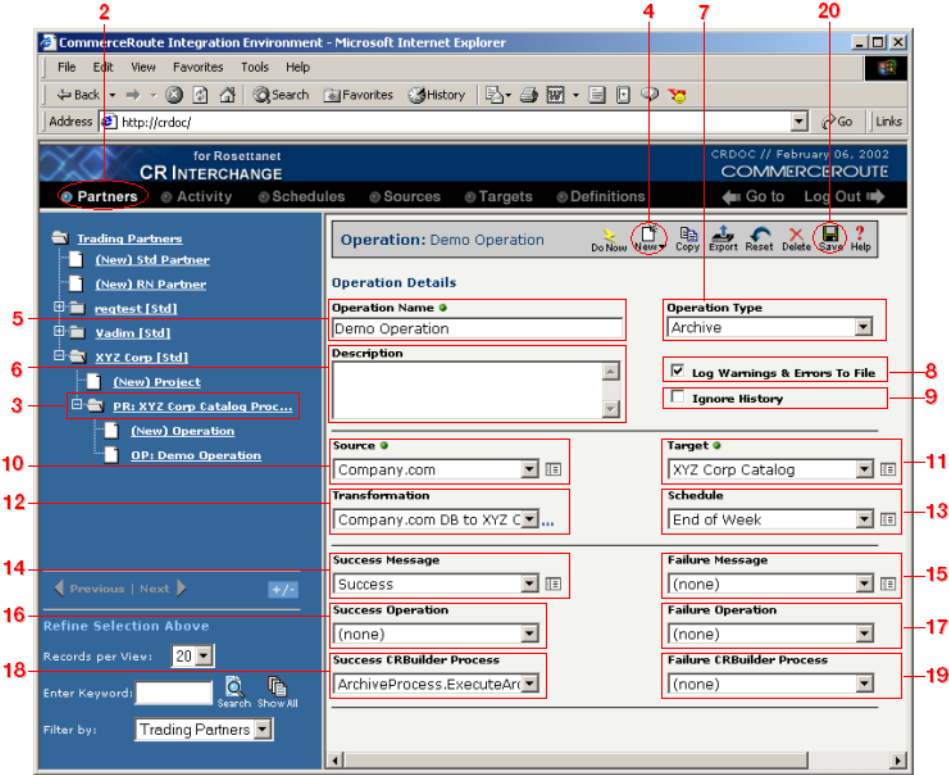

Figure 10-1. A completed operation, created by assembling the appropriate source, target, schedule, transformation, and other desired definitions.
Follow these steps to create an operation. Each step is marked in Figure 10-1 below.
- 20 Compare your work with Figure 10-1 below, then click the **Save** button. You will see a new operation associated with your project.